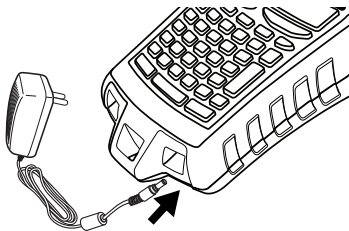

Figure 3
1. Plug the power adapter into the power connector on the bottom of the printer. See Figure 3.